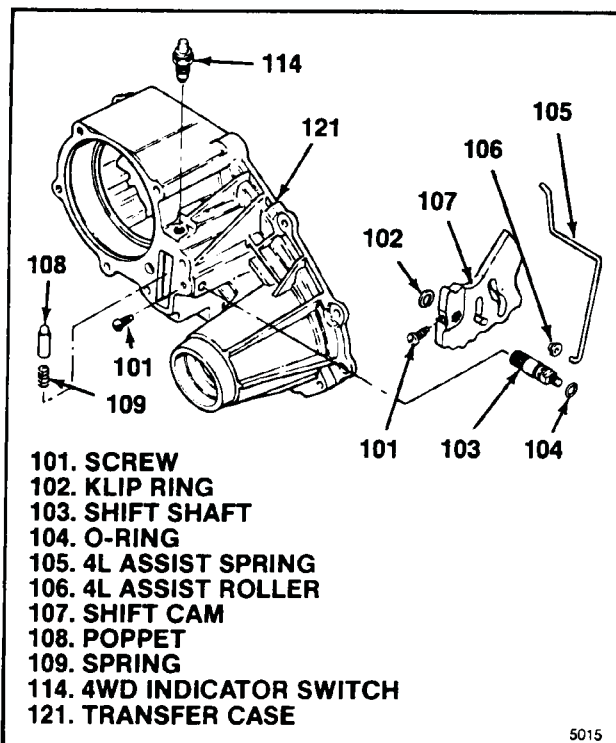

Figure 5-7. Mechanical Shift Cam Parts
5-7. ASSEMBLY OF SHIFT CAM PARTS (MECHANICAL SHIFT TRANSFER CASE ONLY). On mechanical shift units, install parts as follows (see figure 5-7):
a. Lubricate o-ring (104) and install on shift shaft (103). Start splined end of shift shaft into transfer case (121) until end is flush with inside of case. Position flats on outside end of shaft as shown in figure 5-7.
b. Apply petrolatum to spring (109) and poppet (108) and position these parts in hole in transfer case (121). Using care not to unseat poppet, insert shift cam (107) into transfer case in position shown in figure 5-7, with flat end of cam approximately parallel with front face of case. Pressing cam against poppet and compressing spring, align splines in cam and on shaft (103) and press shaft fully into cam.
c. Install klip ring (102) in groove near inside end of shift shaft (103).
d. Install two screws (101), one in end of shift cam (107) and one in transfer case. Torque screws to 4-7 lb-ft (6.8-9.5 Nm). Make sure that shift shaft (103) is fully engaged so that second screw end enters groove in shaft.
g. Install assist roller (106) on end of assist spring (105) and install in groove in shift cam (107) closest to shift shaft (103). Install other end of spring in hole in transfer case (121).
h. Install 4WD indicator switch (114) and torque to 25-35 lb-ft (34-47 Nm)